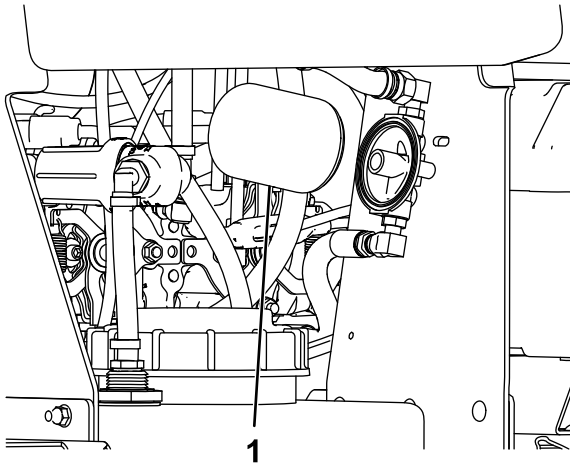

Figure 51
7. Remove the hydraulic filter (Figure 51).